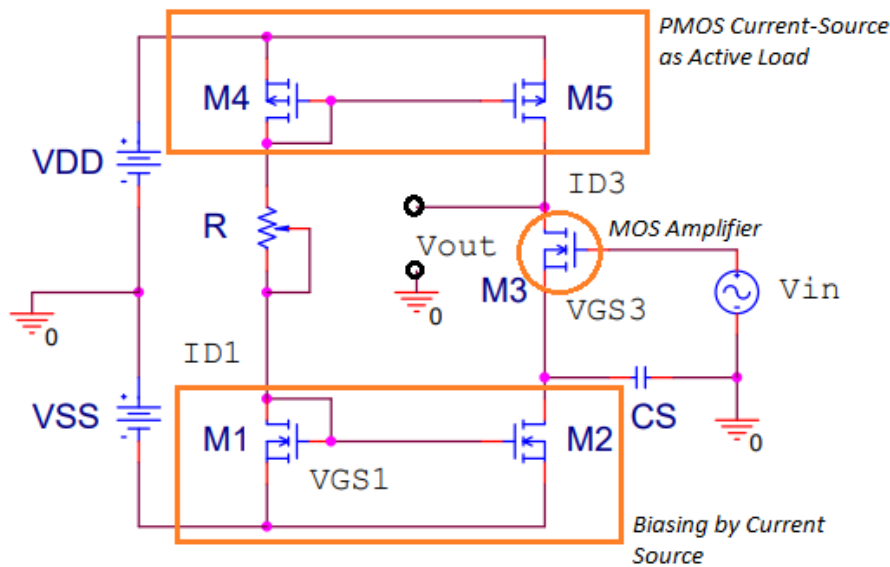

Figure 6: CMOS CS amplifier (CS amplifier with PMOS current-source with current-source biasing)
The circuit shown in Figure 6 is CS amplifier loaded with PMOS current source. This current source is made of basic PMOS current mirror (with M4 and M5). The output impedance for the PMOS current mirror is $r_{0\text{ of M5}}$ ($r_{0\text{M5}}$) which serves as a load in small signal equivalent circuit for gain calculations.
- Implement the CS amplifier circuit shown in Figure 6. Implement the current-source load using PMOS models used in previous tasks for M4 and M5. The NMOS transistors (M1 and M2) used for biasing and the amplifier MOS (M3) have following specifications: